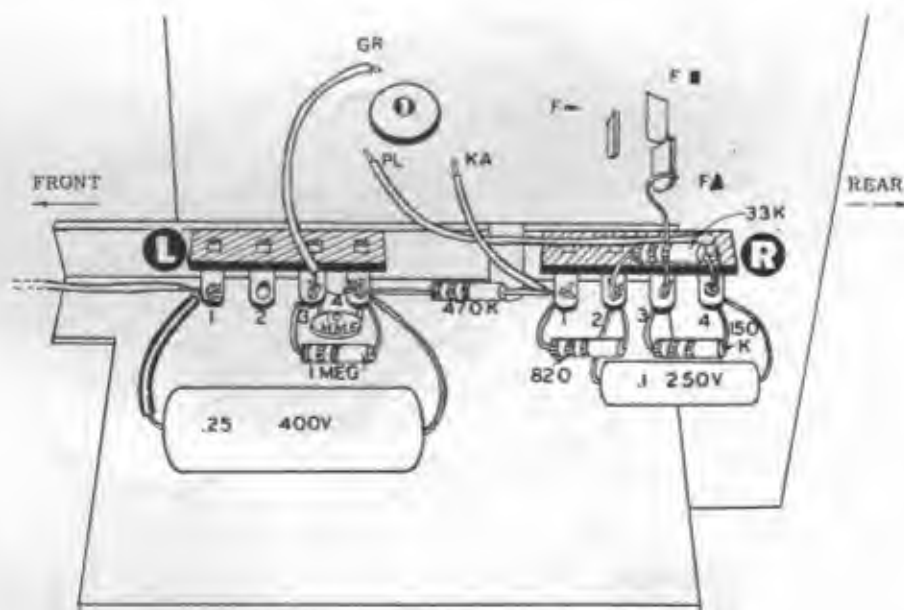

FIGURE 26.
- ( ) Lay the scope over on its left side, and wire the two 4-way tagstrips mounted on the flange of the bottom shield. The front terminal strip will be designated by the letter L (left) and the rear one by R (right). On each strip the tags are numbered left to right (front to rear). Refer to Figure 26 for placement of parts.
- ( ) Connect the free end of the wire previously soldered to NN5 on the SYNC, SELECTOR control to L1 (NS).
- ( ) Strip both ends of a  $2\frac{1}{2}$ " length of wire, and push one end into the hole in the circuit board marked GR. Solder the wire to the foil. Then connect the other end of the wire to L3 (NS).
- ( ) Similarly, with a 4" length of wire connect hole PL (S-1) to tag R4 (NS).
- ( ) Similarly, with a  $1\frac{1}{2}$ " length of wire connect hole KA (S-1) to tag R1 (NS).
- ( ) Connect a 1 megohm resistor (BROWN, BLACK, GREEN) from L3 (NS) to L4 (NS).
- ( ) Connect a 10 pF ceramic disc capacitor from L3 (S-3) to L4 (NS).
- ( ) Connect a 470 KΩ resistor (YELLOW, VIOLET, YELLOW) from L4 (NS) to R1 (NS).
- ( ) Connect a short bare wire from tag F▲ on the electrolytic capacitor (S-1) to R3 (NS).
- ( ) Connect a 150 KΩ resistor (BROWN, GREEN, YELLOW) from R3 (S-2) to R4 (NS).